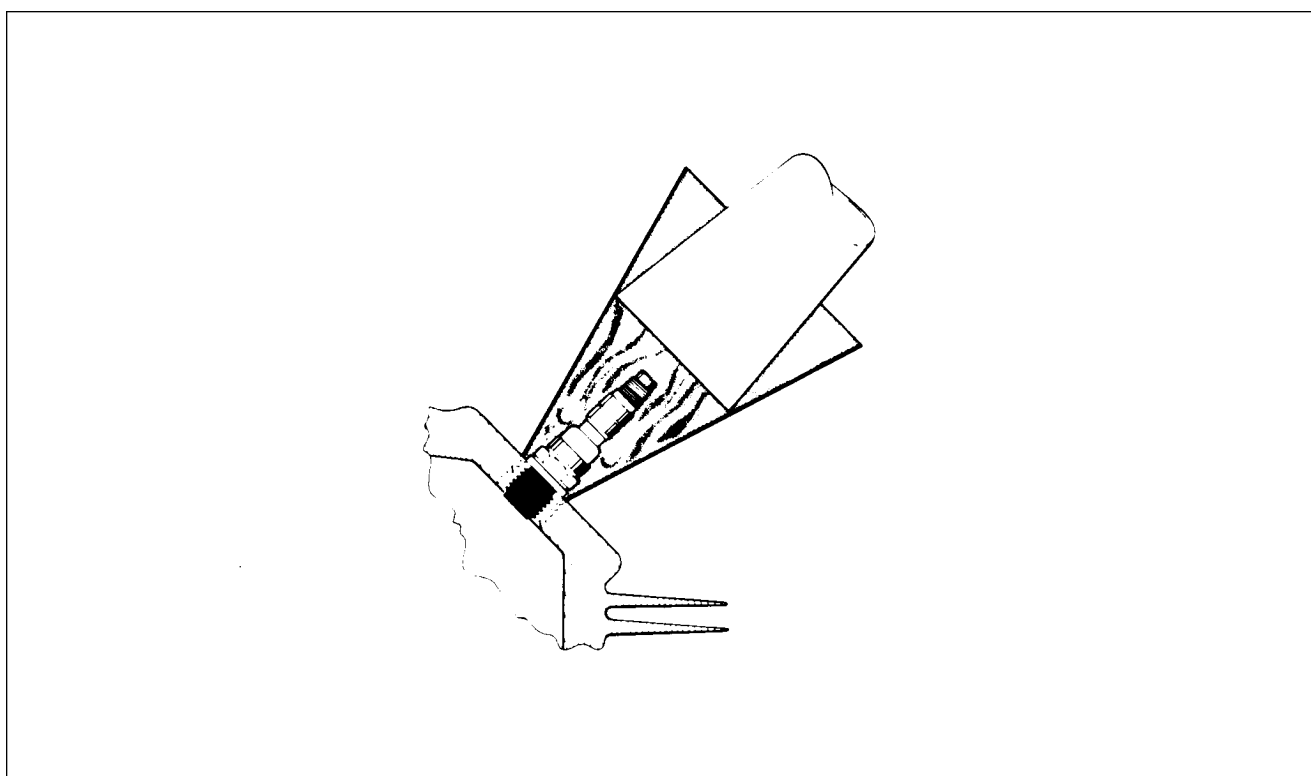

Figure 8-29. Removing Frozen Spark Plug
- d. Removal of seized spark plugs in the cylinder may be accomplished by application of liquid carbon dioxide by a conical metal funnel adapter with a hole at the apex just large enough to accommodate the funnel of a CO2 bottle. (Refer to Figure 8-29.) When a seized spark plug cannot be removed by normal means, the funnel adapter is placed over and around the spark plug. Place the funnel of the CO2 bottle inside the funnel adapter and release the carbon dioxide to chill and contract the spark plug. Break the spark plug loose with a wrench. A warm cylinder head at the time the carbon dioxide is applied will aid in the removal of an excessively seized plug.